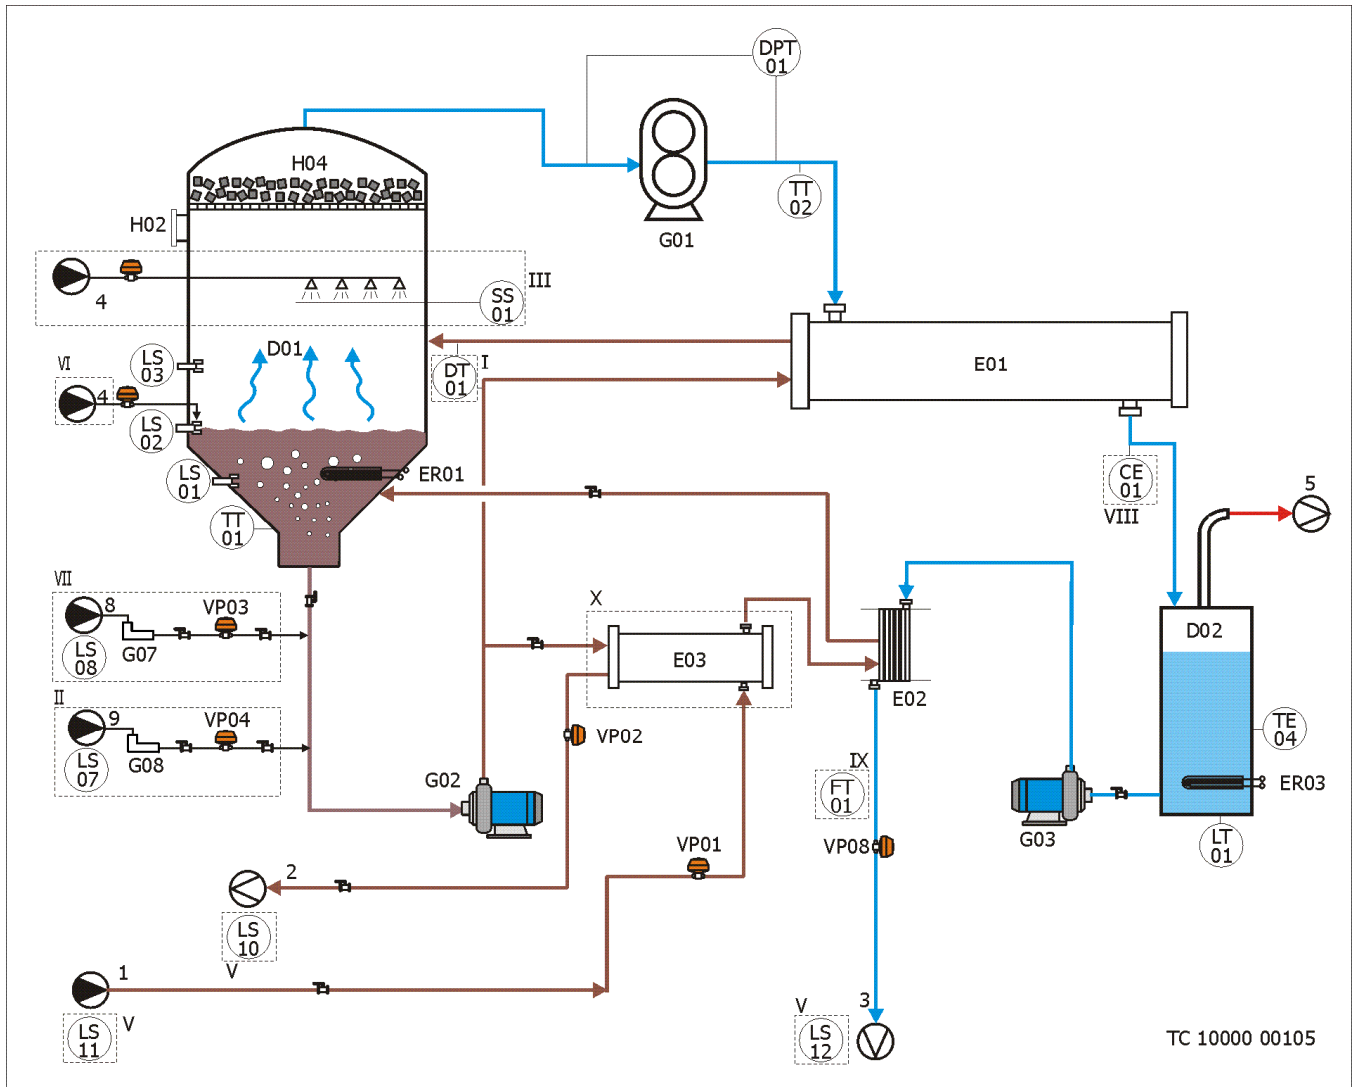

Figure 1
The machine TC 10000 is a mechanical vapour recompression evaporator for the treatment of water based liquids. For component identification refer to figure 1.
*1) See the diagram in the figure 1.
*1) See the diagram in the figure 1. *2) To be requested in the order.
*1) See Figure 1 *2) Maximum distance of the tank *3) Maximum pipe length *4) Difference in height / Maximum head.
The machine is supplied with a vent for vapour and incondensable gases (see output 5 in figure 1) that must be advisably canalized, if necessary, in respect of the regulations regarding safety in workplace.